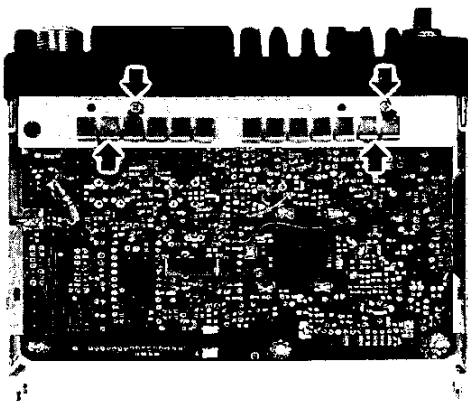

Figure 4a
- a) Remove the 4 screws on each of the shield covers on the top and bottom rear edges of the chassis (Figures 4a and 4b), and remove the covers.